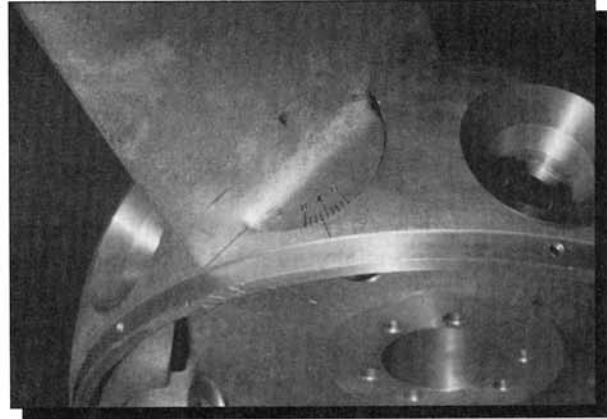

Fig. 8 Blade pitch scale and index line.
3. Locate the blade with blade pitch graduations stamped into the blade base and index line on the rotor (Fig. 8). This is the master blade.